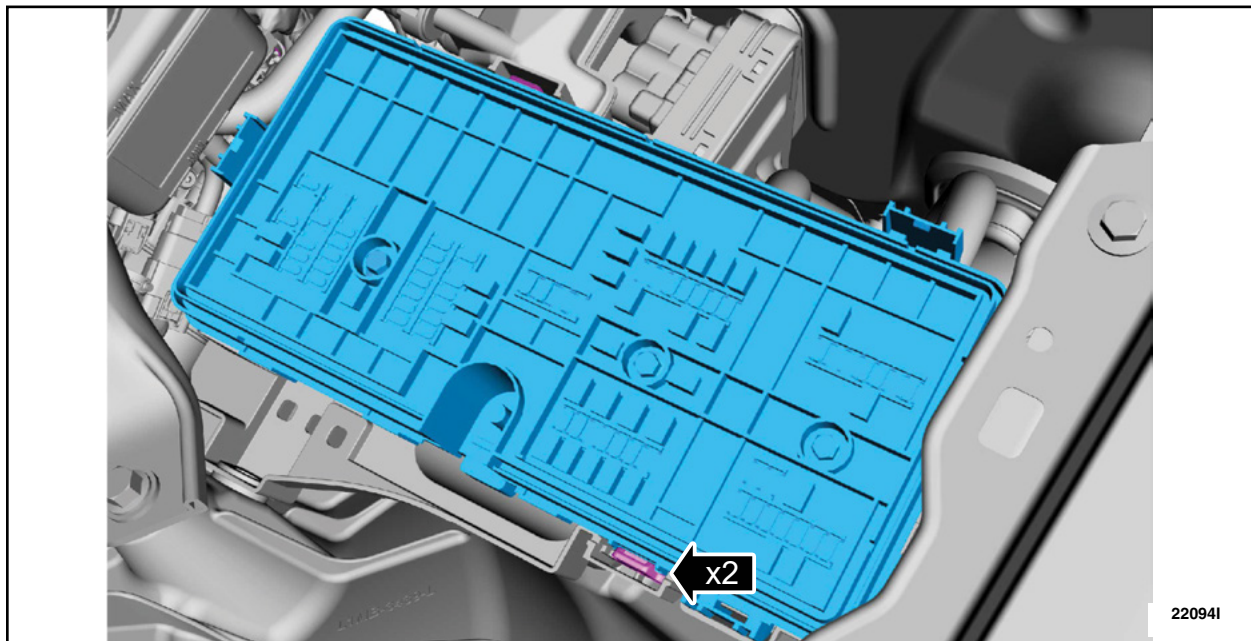

FIGURE 21
27. Install the BCMC and engage the tabs. See Figure 21.